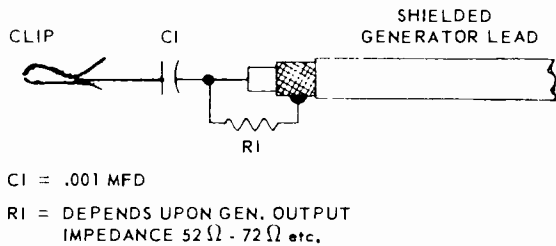

Figure 1 - RF Generator Coupling
2. Connect the RF generator, capable of providing frequencies ranging from 40 to 50 mc. unmodulated, to point "D" as shown on Fig. 12. For suggested RF generator coupling and termination see Fig. 1.